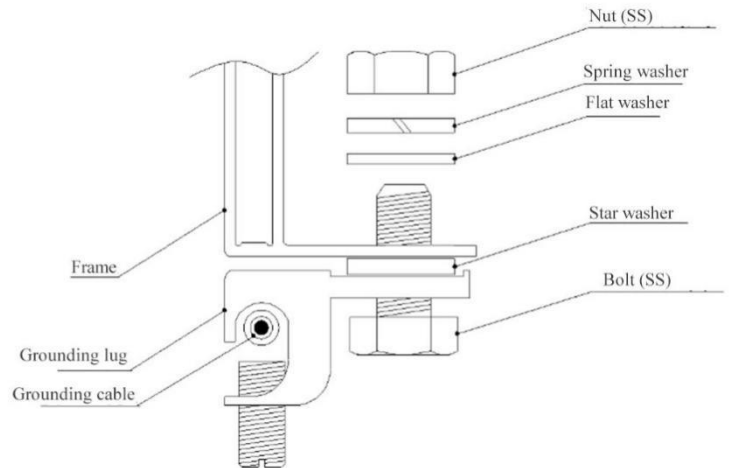

Figure 24 Schematic diagram for installation of connecting lug fitting bolt
- Installation with connecting lug fitting bolts: Firstly, strip the grounding cable head for an appropriate length. Be careful not to damage the metal wire core during stripping. Insert the stripped grounding cable head into the socket of the connecting lug, then tighten the fastening screws, and connect the connecting lug to the aluminum frame with stainless steel bolts and connectors. The installation diagram is shown in Figure 24.